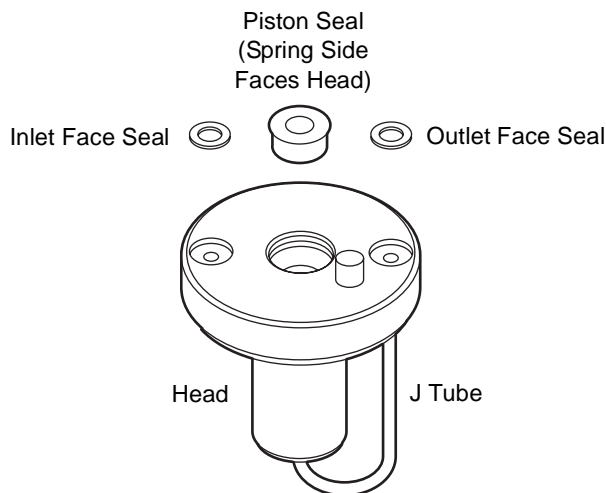

Figure 4-23 Piston and Face Seal Placement
1. Use the plastic end of the seal insertion and removal tool to remove the piston seal from the head (Figure 4-23).
5. Use plastic tweezers to remove the face seals from the seal openings in the head (Figure 4-23).